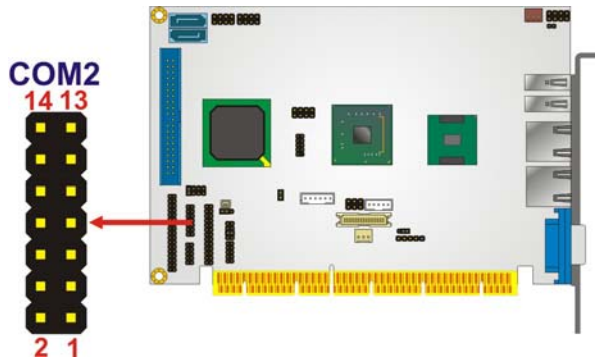

Figure 4-20: RS-232/422/485 Connector Pinout Locations
- CN Location:** See Figure 4-20